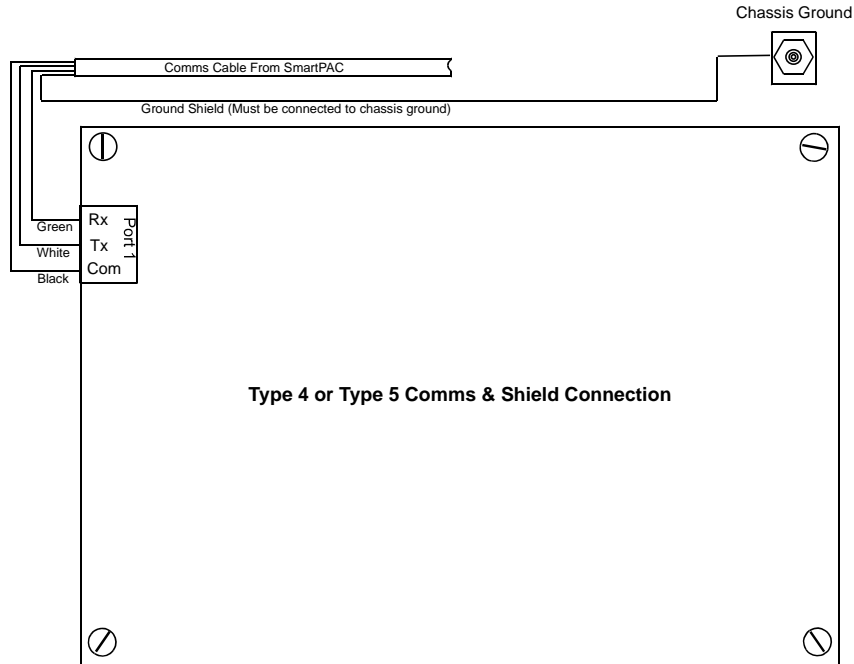

Figure 2-10 Connecting ground shield to MultiPAC PC board
- Good grounds at MultiPAC are important. Make sure MultiPAC is properly grounded. Refer to Figure 2-10 for instructions on how to ground the comms cable that runs between SmartPAC and MultiPAC.
5. Connect shield (Thin braided silver looking wire with no insulation) to the chassis ground lug located in SmartPAC (Refer to your SmartPAC manual for its exact location) and the other end in MultiPAC to a chassis ground location in your console or enclosure (Refer to Figure 2-10).